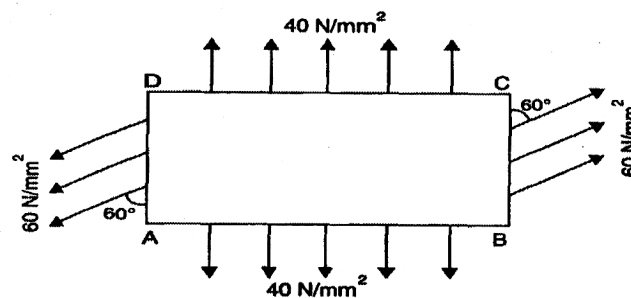

Fig. 10
7. (a) A point in a strained material is subjected to the stresses as shown in Fig. 10. Locate the principal planes, and evaluate the principal stresses. [7]